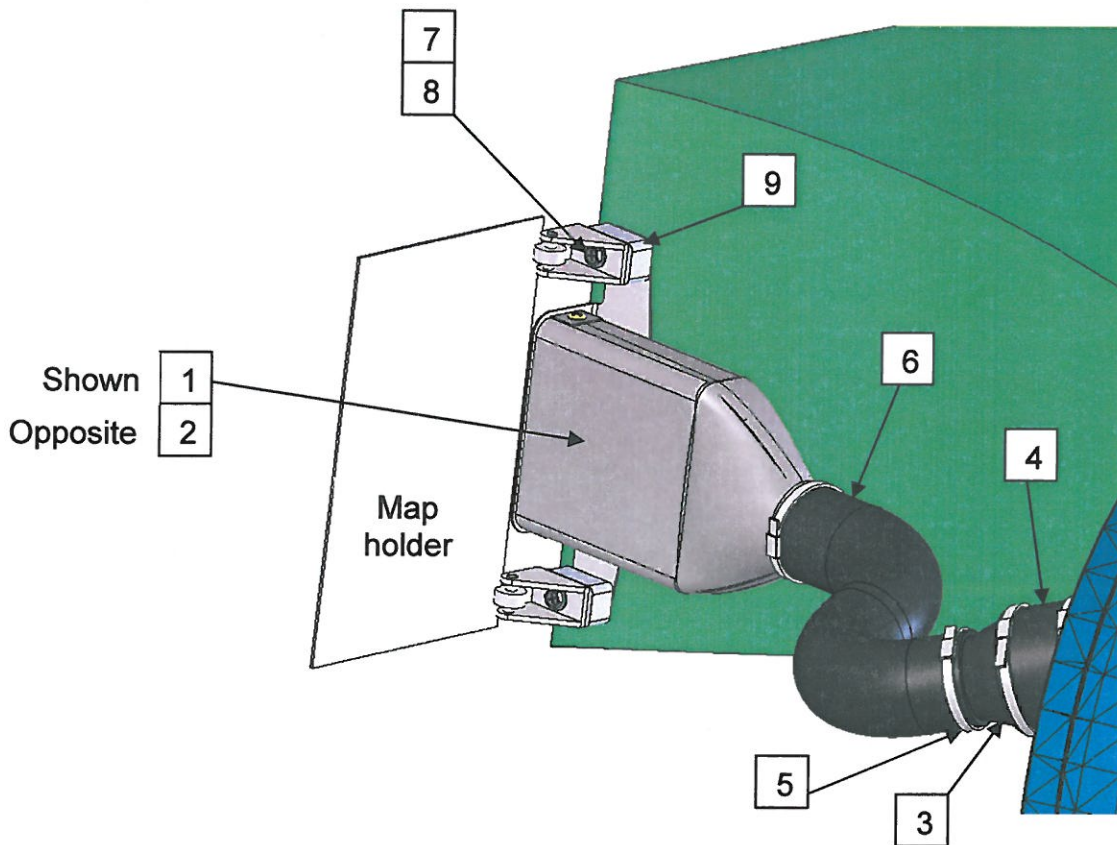

Figure 3. Outlet mounting detail
- 2) Remove and set aside existing map holder (figure 3). Discard the existing hardware.
- 3) Attach items 1,7,8,9, and the map holder to the right side of the instrument panel shroud using the hardware provided.
- 4) Install items 3,4,6 as shown in Figure 3. Secure duct joints with clamps item 5.